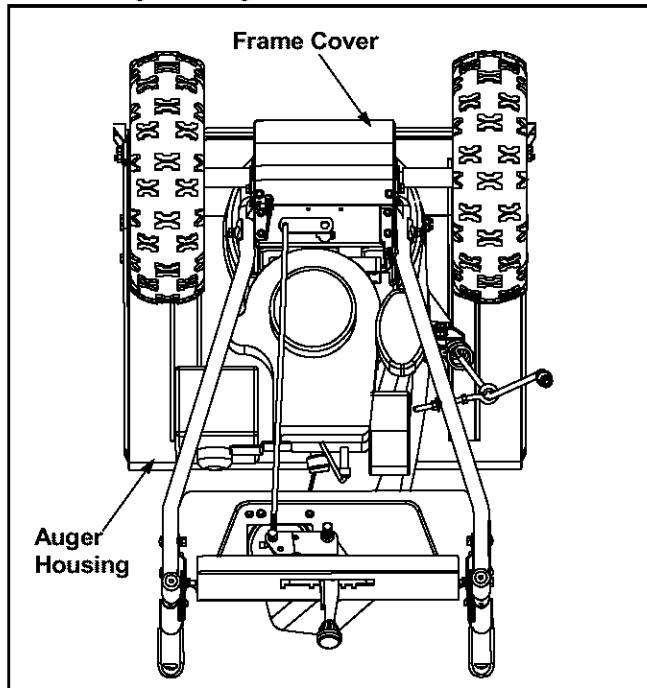

Figure 16
- Tip the snow thrower so that it rests on the auger housing. See Figure 16.